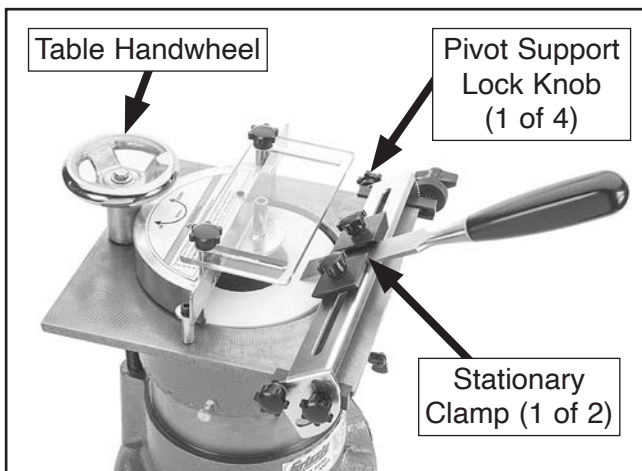
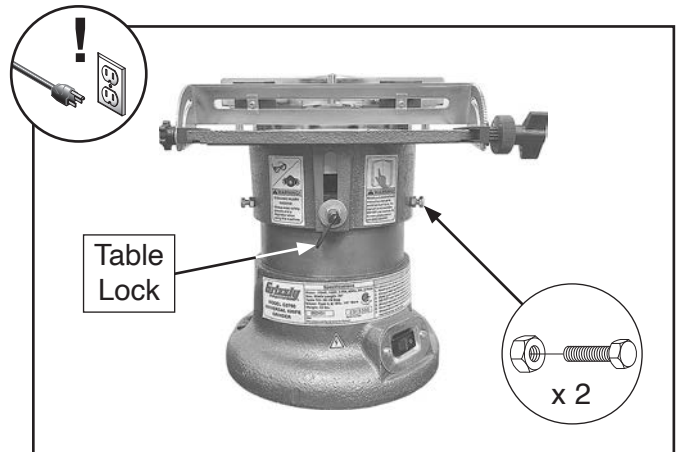

Figure 14. Components securing a narrow tool.
Figure 15. Location of table lock components.
The stationary clamps mounted on the pivot support hold tools with narrow cutting widths, such as chisels, that have a beveled edge which can be squarely aligned with the flat of the wheel, as shown in **Figure 14**.
2. Install pivot support onto table with (2) stationary clamps attached.
3. Center tool on pivot support between clamps, slide them together to firmly hold tool, then tighten (2) stationary clamp lock knobs to secure them in place, as shown in **Figure 14**.
4. Loosen table lock and (2) table hex bolts and jam nuts (see **Figure 15**), then use table handwheel (see **Figure 14**) to lower table until top surface of wheel is even with table.
5. Hand-tighten (2) table hex bolts until snug, then fully tighten (2) table jam nuts *without* tightening hex bolts.